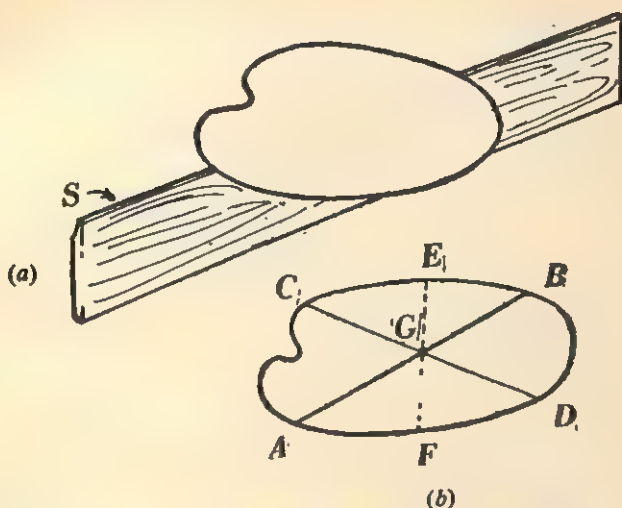

Fig. 2.5. To balance a lamina on a straight edge.
**Procedure.** (1) Balance the object (thin sheet or lamina) on a long and straight edge  $S$  as shown in Fig. 2.5(a). Mark the line of balance  $AB$  along the edge with a sharp pencil. The C.G. must lie somewhere on this line.
(2) Now balance the sheet in some other position and mark the balancing line  $CD$  as in step (i). The C.G. must lie on the line  $AB$  as well on  $CD$ . Therefore the point of intersection  $G$  of the lines  $AB$  and  $CD$  is the centre of gravity as shown in Fig. 2.5(b).